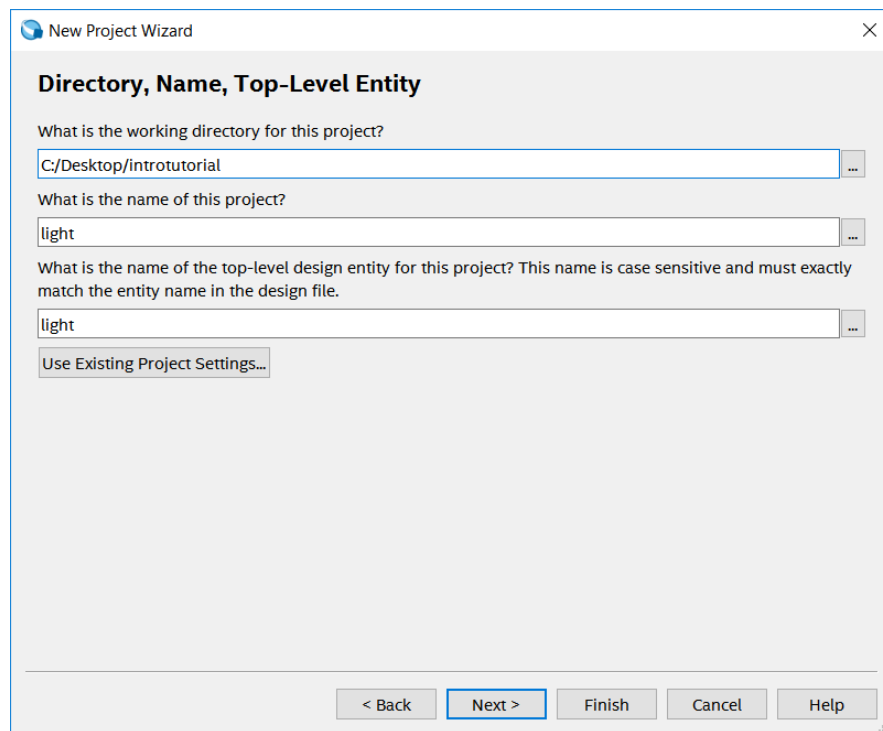
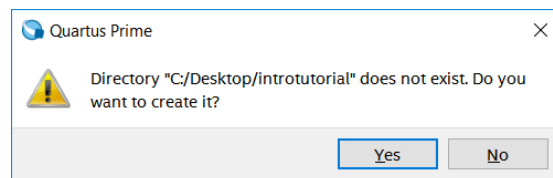
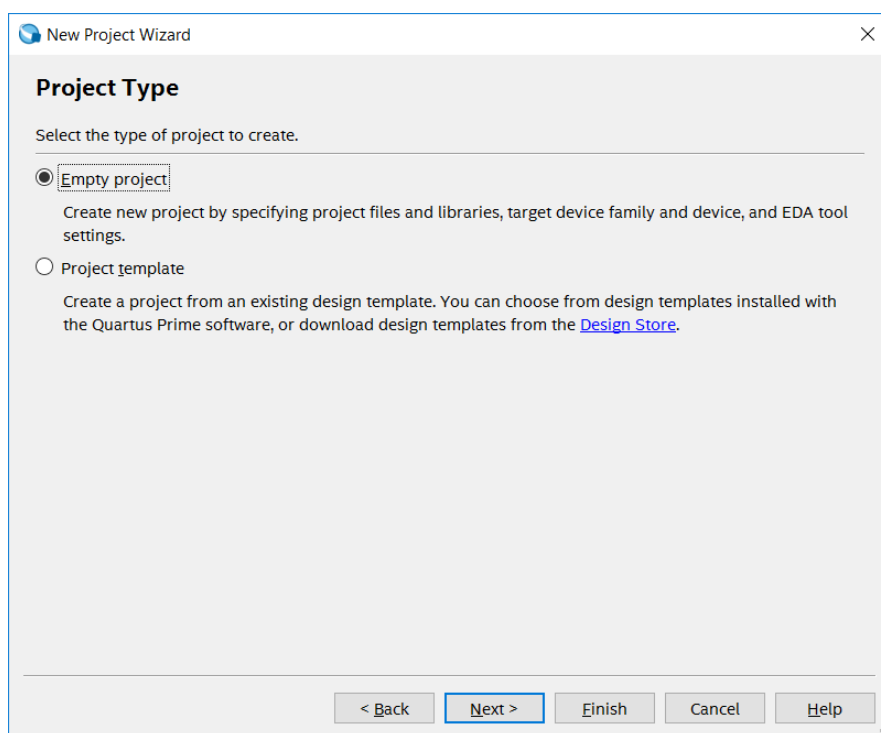

Figure 4. Creation of a new project.
Figure 5. Quartus Prime software can create a new directory for the project.
Figure 6. Choosing the project type.
1. Select **File > New Project Wizard** and click **Next** to reach the window in Figure 4, which asks for the name and directory of the project.
2. Set the working directory to be *introtutorial*; of course, you can use some other directory name of your choice if you prefer. The project must have a name, which is usually the same as the top-level design entity that will be included in the project. Choose *light* as the name for both the project and the top-level entity, as shown in Figure 4. Press **Next**. Since we have not yet created the directory *introtutorial*, Quartus Prime software displays the pop-up box in Figure 5 asking if it should create the desired directory. Click **Yes**, which leads to the window in Figure 6.
3. The Project Type window, shown in Figure 6, allows you to choose from the Empty project and the Project template options. For this tutorial, choose Empty project as we will be creating a project from scratch, and press Next which leads to the window in Figure 7.
The required circuit is described by the VHDL code in Figure 13. Note that the VHDL entity is called *light* to match the name given in Figure 4, which was specified when the project was created. This code can be typed into a file by using any text editor that stores ASCPrime files, or by using the Quartus Prime text editing facilities. While the file can be given any name, it is a common designers' practice to use the same name as the name of the top-level VHDL entity. The file name must include the extension *vhd*, which indicates a VHDL file. So, we will use the name *light.vhd*.